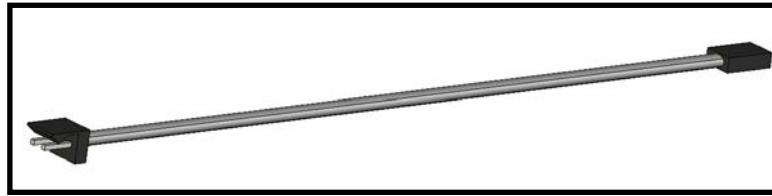
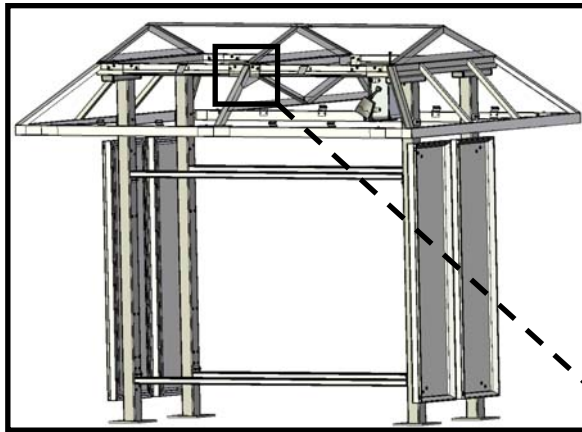

Figure 25
Figure 26
- f) ******For Vario™ III or IV only****all others skip to Step 5.:** Place 48191 Center Truss Harness (Figure 25) through channel of center truss so that an LED strip can be plugged into it on either side of the truss. See Figures 26 and 27.